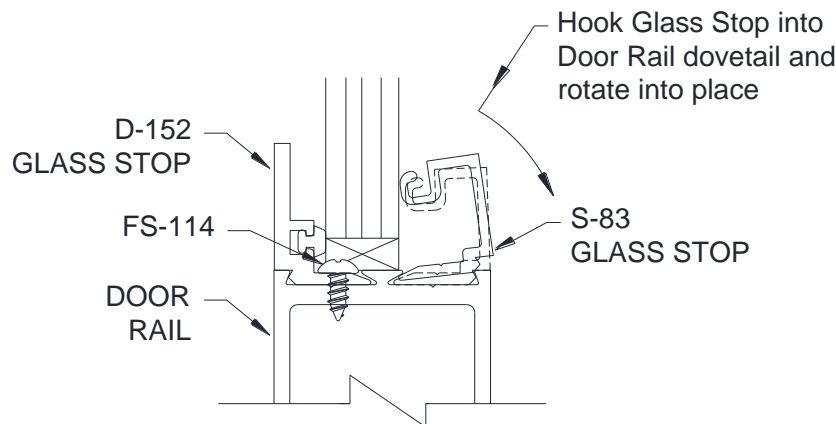

Figure 29: Installing S-83 Glass Stop
- 12.4.4 Install the **S-83** Glass Stop into the horizontals. Hook the stop into the dovetail on the door rail and rotate into place, as shown in *Figure 29*. A mallet may be used to drive the Glass Stop into place.